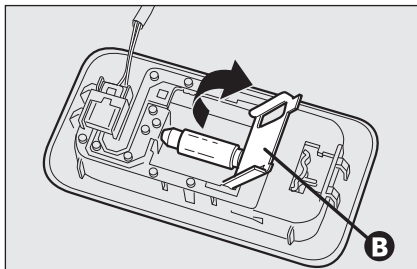

fig. 51
- open the protection cover **B-fig. 51** and replace the bulb releasing it from the side contacts making sure that the new bulb is correctly clamped between the contacts;